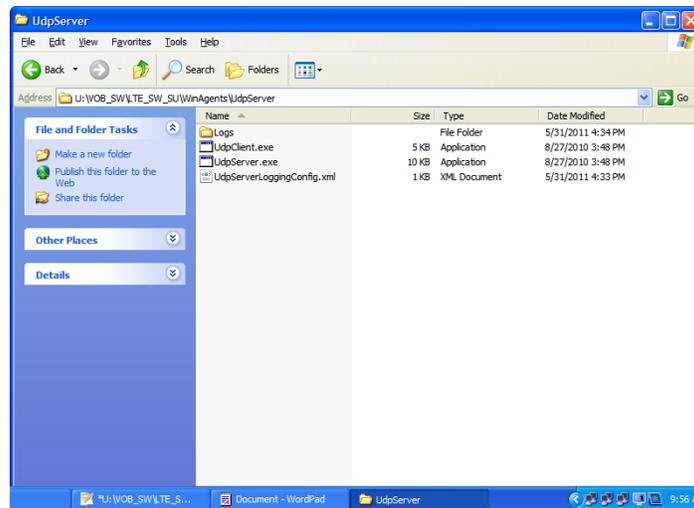

Figure 2-50: UdpServer Folder
**C:\AT4Wireless\LTE\_E2010\SW\_LTE\_E2010\_3\_0\_5\_2\xWinArea\Tools\UdpServer\**, as shown in Figure 2-50.